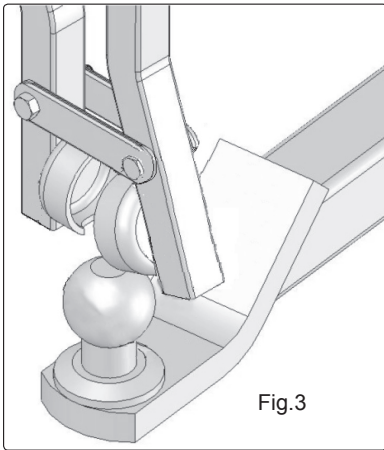

Fig.3
- 3.2 Position the cycle carrier on the Ø50mm tow ball as illustrated. (Fig.3 & 4)